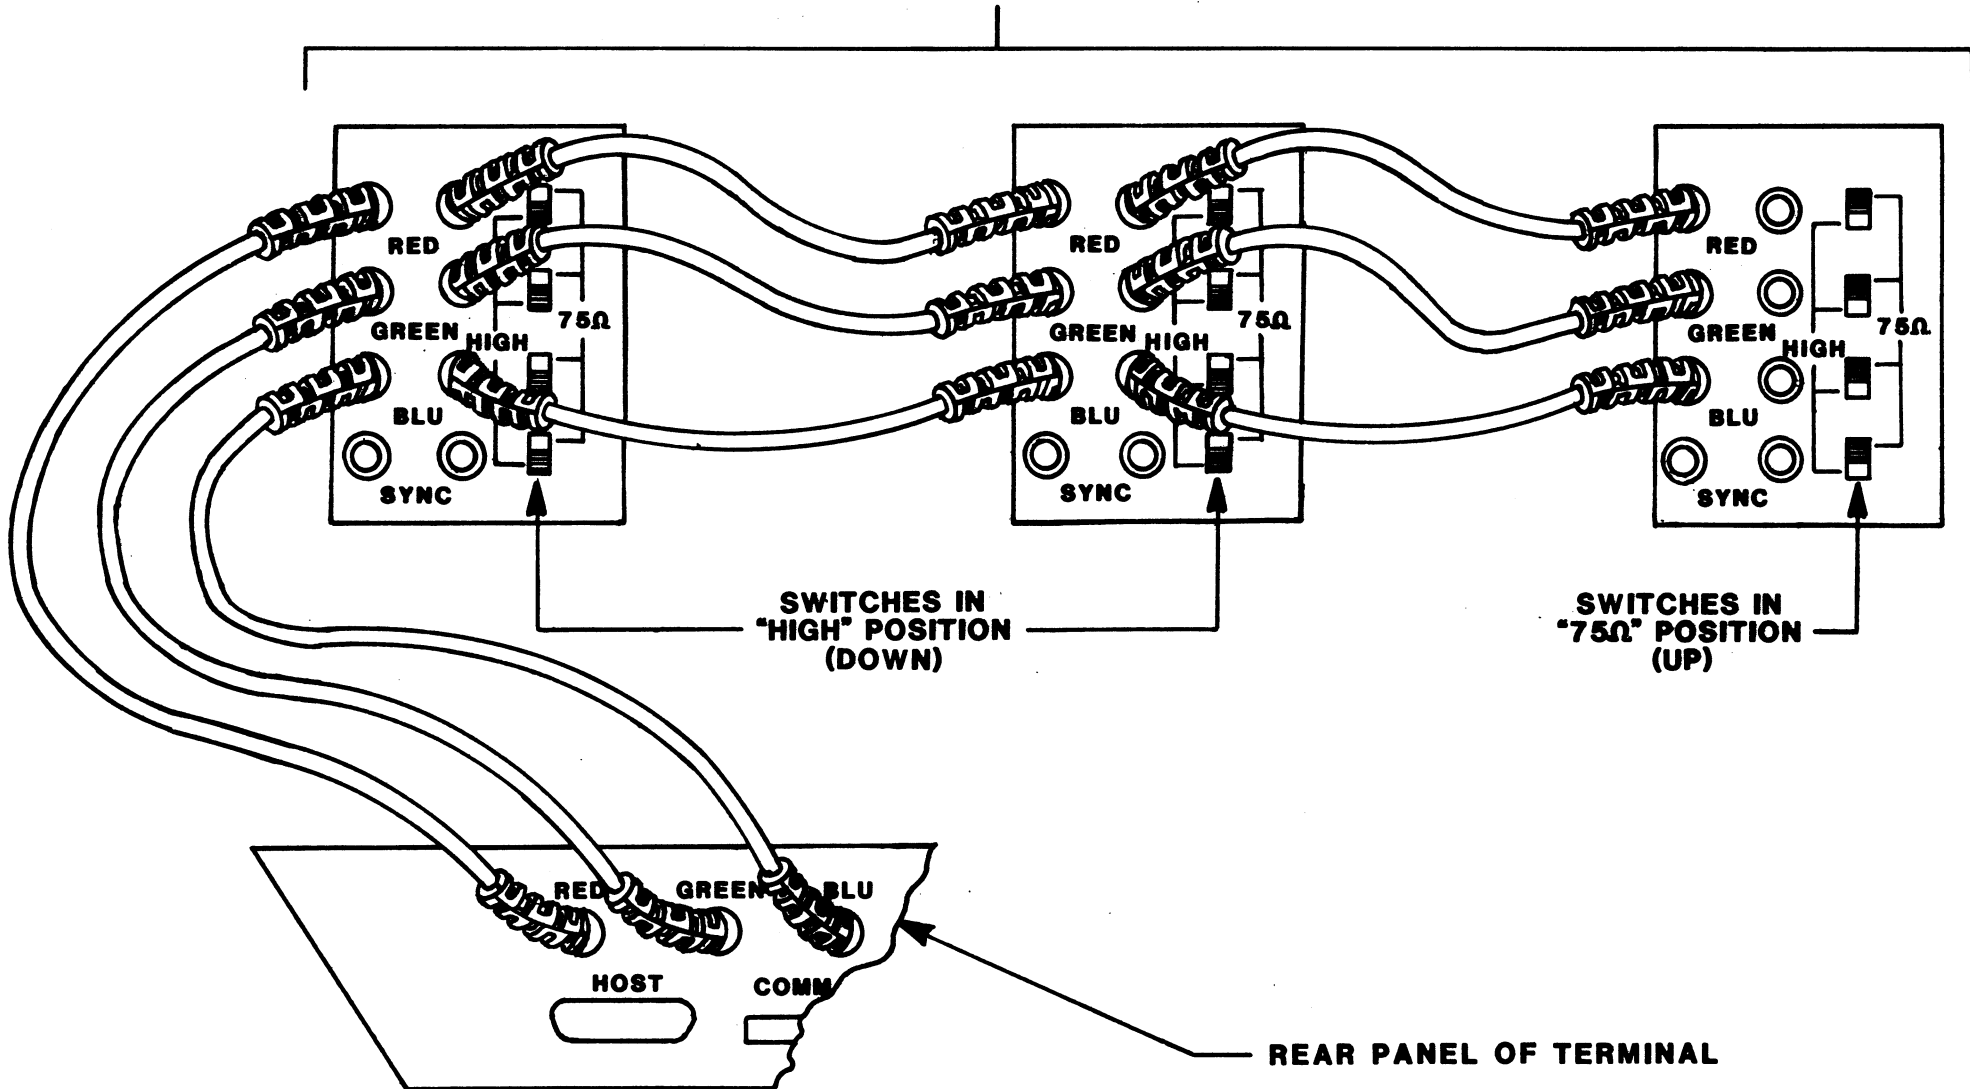

Figure 3.2
Assuming the units are not damaged, *place the monitor atop the terminal* as shown in *Figure 3.1*. Align the rear edge of the monitor with the same of the terminal. *Connect the three coaxial cables* as shown in *Figure 3.1* and *3.1A*. Be sure that one of the cables provided connects RED (R) on the monitor to RED (R) on the terminal; likewise for G and B. If a single monitor is being used, the monitor termination switches should be in the 75 Ohm position. But if several monitors are being cascaded, connections should be made and termination switches set as in *Figure 3.2*.